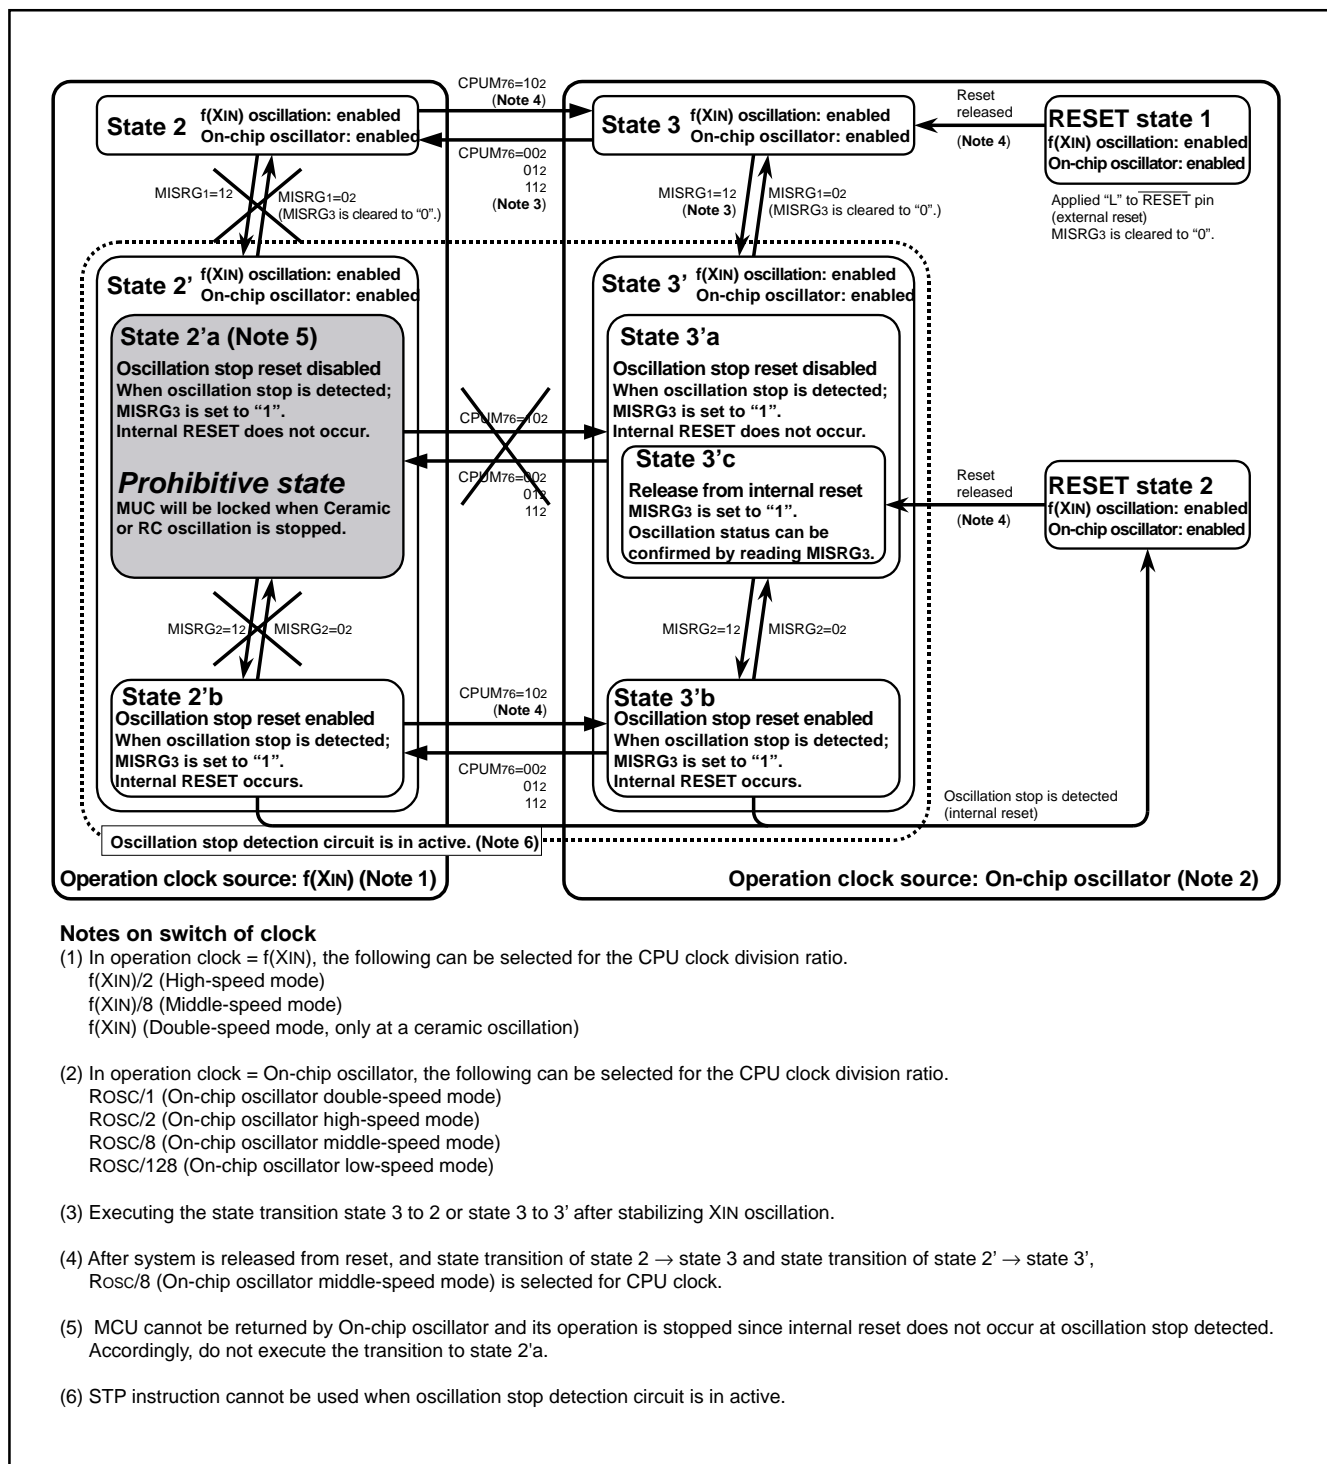

Fig. 80 State transition 2
- Do not execute the transition to "state 2'a" shown in Figure 80 because in this "state 2'a", MCU is stopped without reset even when XIN oscillation is stopped.
- (1) External reset
- (2) Write "0" data to the ceramic or RC oscillation stop detection function active bit.